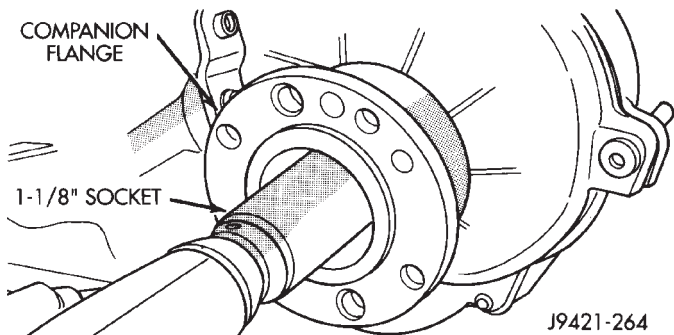

Fig. 12 Removing Companion Flange Nut
- (1) Shift transfer case into neutral.
(2) Remove companion flange nut (Fig. 12). Discard nut after removal. It is not reusable.